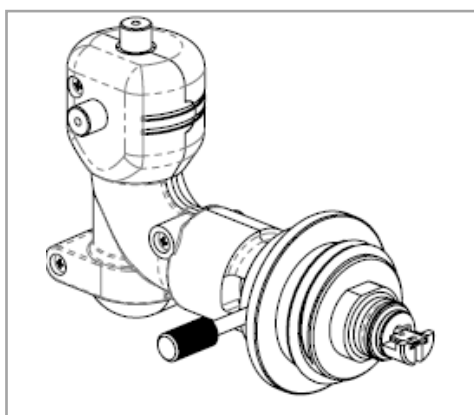

Fig. 12 Assembled SFI
4. Fasten the spraychip into the SFI using the grub screw. The assembled SFI will look as shown in Fig. 12.